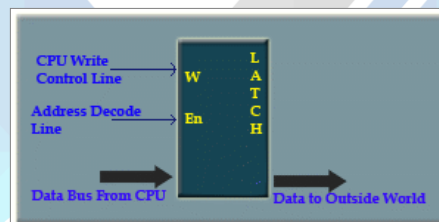

Fig 3.2: The write only port
- The I/O ports can be read-only, write-only, or read/write. The write-only port is shown in the Figure3.2.